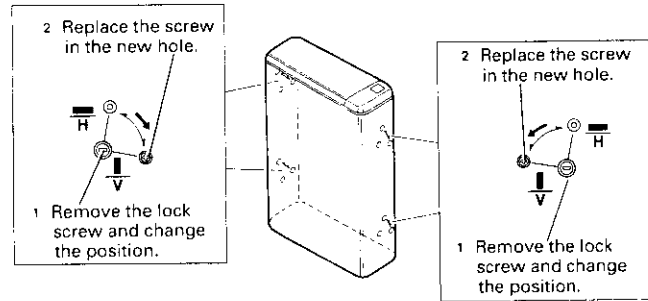

Fig. 6
- Change the positions of all four springs by turning the mounting orientation selectors to V (vertical) with a small flat-bladed screwdriver, as shown in ① of Fig. 6.
- Replace the removed screws (2.6 × 4 mm) in the screw holes for V, as shown in ② of Fig. 6.